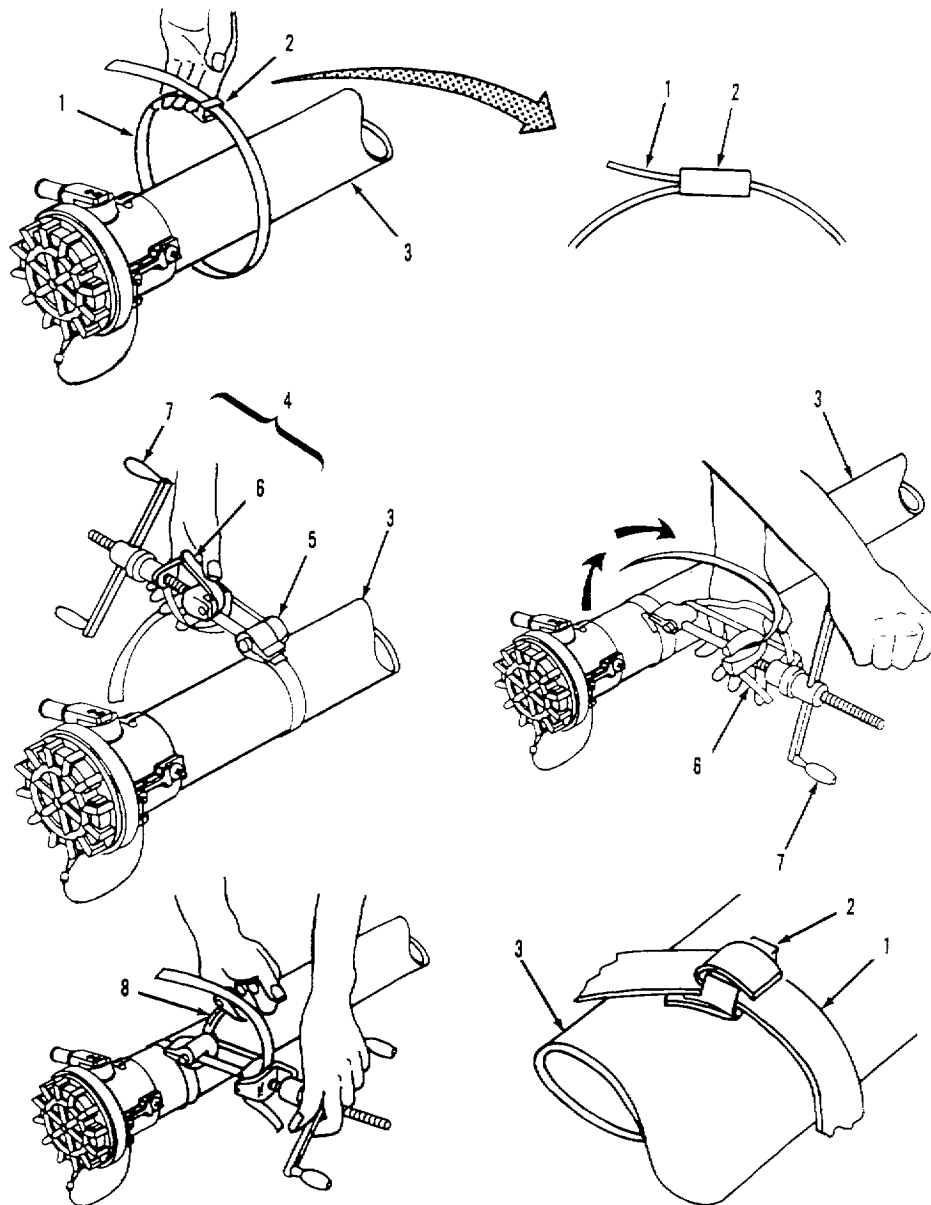

Figure 4-8. 2-inch Fuel Hose Clamp Installation.
- (3) Push valved dry break coupling assembly (8) into end of hose (9).
- (4) Slide sleeve (1) onto hose (9) and position it about 12 inches back from end of hose.
- (5) Push valved dry break assembly (4) into end of hose (9).
- (6) Perform continuity test between valved dry break couplings (4 and 8) to ensure ground wires are firmly seated against couplings. Continuity must exist.
- (7) Wrap end of clamp (1, figure 4-8) around hose (3) and through seal (2). Position clamp about 1-inch from end of hose.
- (8) Wrap another loop of clamp (1) around hose (3) and through seal (2).
- (9) Position tag end of clamp (1) in slots of clamping tool (4). Tool nose (5) should fit snug against seal (2).
- (10) Apply pressure to gripper lever (6) and turn handle (7) until clamp (1) is snug. Tool will lock in place when correct tension is applied. Reposition tool as required.